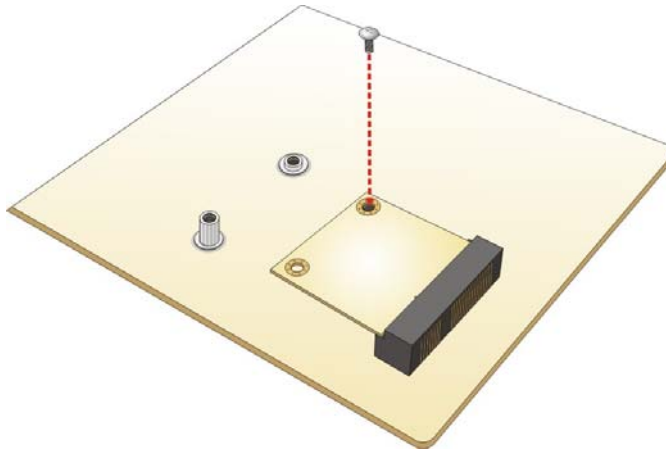

Figure 4-17: Securing the Half-size PCIe Mini Card
Step 5: Secure the half-size PCIe Mini card. Secure the half-size PCIe Mini card with the retention screw previously removed (Figure 4-17).